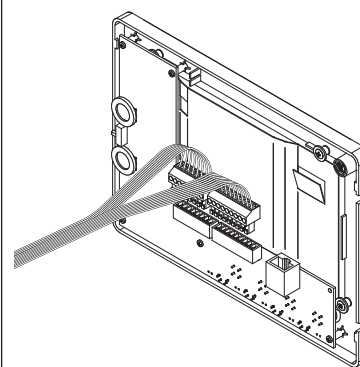

Fig. 6
5. As shown in Fig. 5, connect the wires to the removable terminals following the provided installation diagram. Connect the terminal blocks to the electronics contained in the cover as shown in Fig. 6. Test system before closing. Contrast and hue trimmers can be adjusted only if the videophone is open. To activate the display and see changes use the "Camera Recall" function by pressing  button.